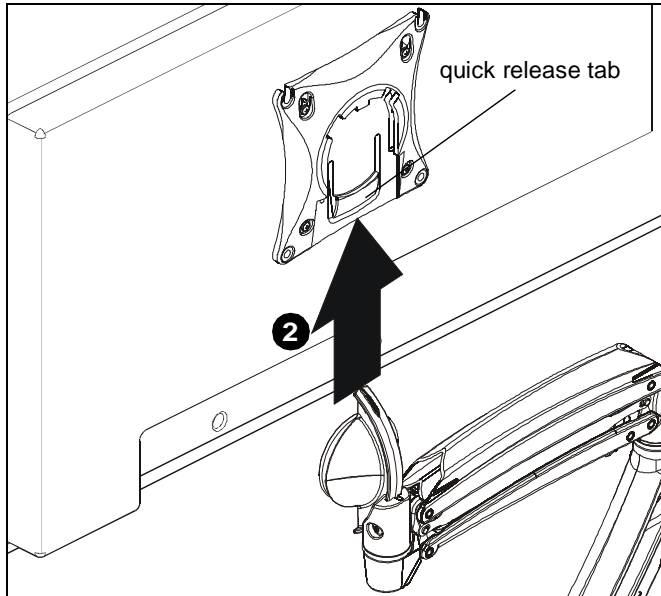

Figure 19
**WARNING:** Only remove display from mount when the display can be lifted up from the mount! DO NOT remove display unless the display is in the upright position! (See Figure 19)
2. Remove quick release faceplate from mount by pressing quick release tab and sliding faceplate off mount. (See Figure 19)